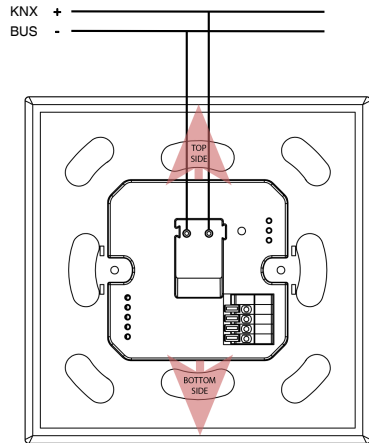

Fig.3
- Finally, the justTouch is gently placed in the junction box with the top part (see Fig.3) facing up with holding the right and left sides of the justTouch and the mounting process is completed.